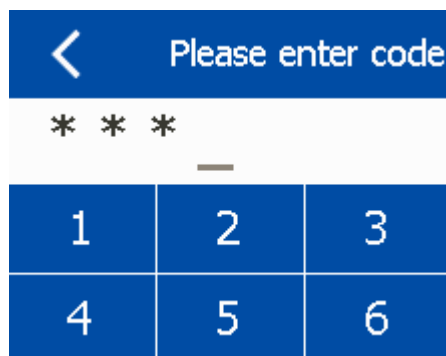

Fig. 74: Password entry
Several 'Main Menu' functions are password protected. When you click on a password protected function on the 'Main Menu', the 'Please enter code' prompt (Fig. 74) displays. The default password is '1234'.
- ▶ When the 'Please enter code' prompt displays (Fig. 74), enter the 4-digit password.